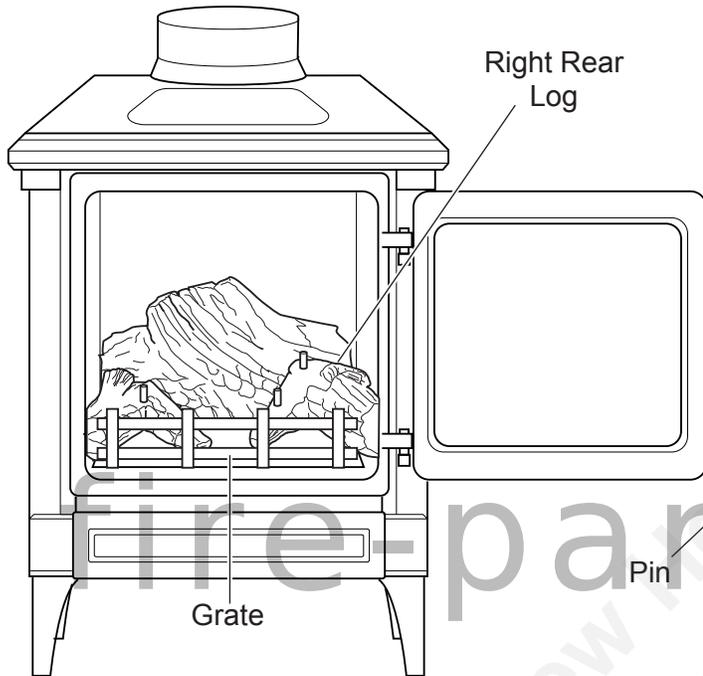

Figure 33 - Installing Right Base Log
5. Place right base log on the two pins against right side of firebox. See Figure 33.